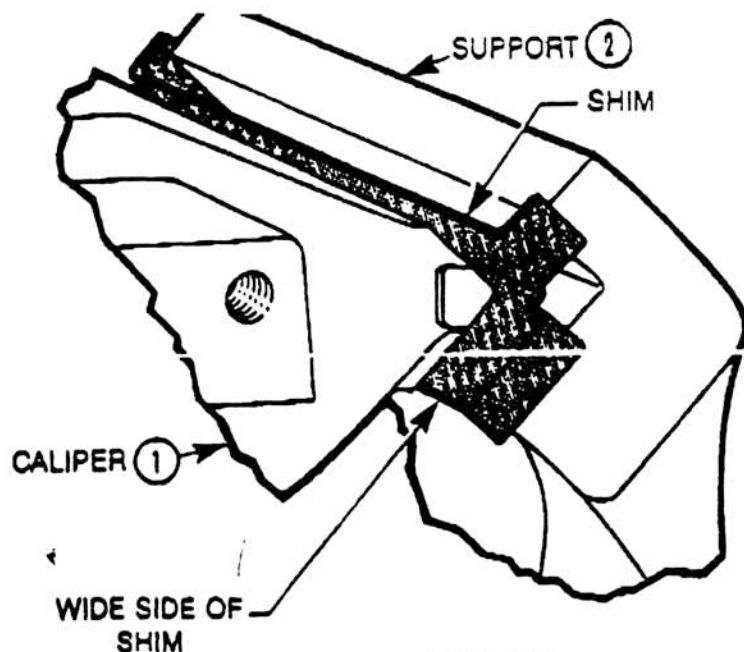

FIGURE 2
- g. Measure the gap at (B) with feeler gages. If the measurement is within limits shown, no shims are required.
- Remove spring (3), retainer (4), and bolt (5)
- Lift forward end of caliper enough to provide clearance between the caliper and the support rail at (A) to permit installation of the shim as shown in Figure 2.
Note: Widest side of shim is to fit up against widest surface of support rail. See Figure 2.